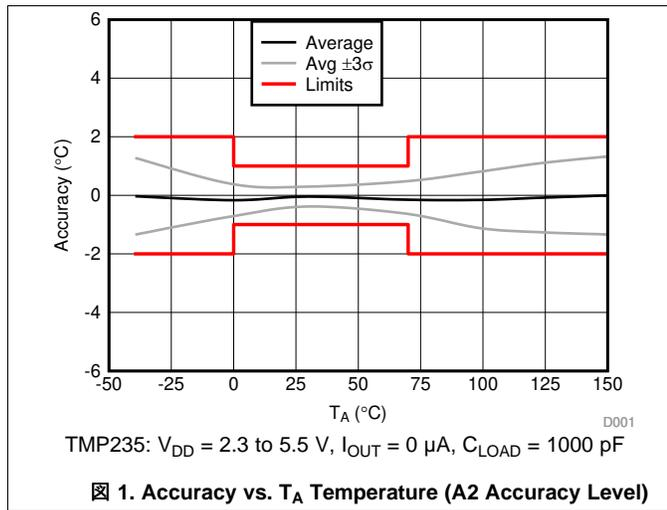

Figure 1. Accuracy vs. T_A Temperature (A2 Accuracy Level)
- Changed specification limits indicated in 図 1 6